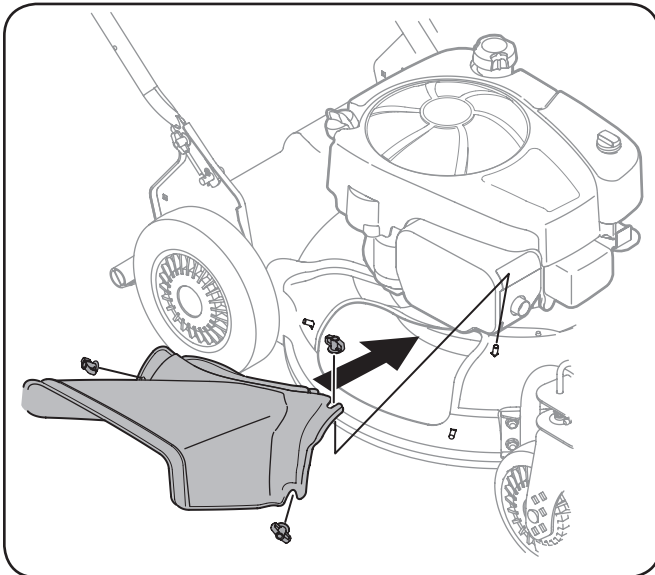

Figure 3-7
- Attach side discharge chute to unit and secure with the three wing nuts. See Figure 3-7.